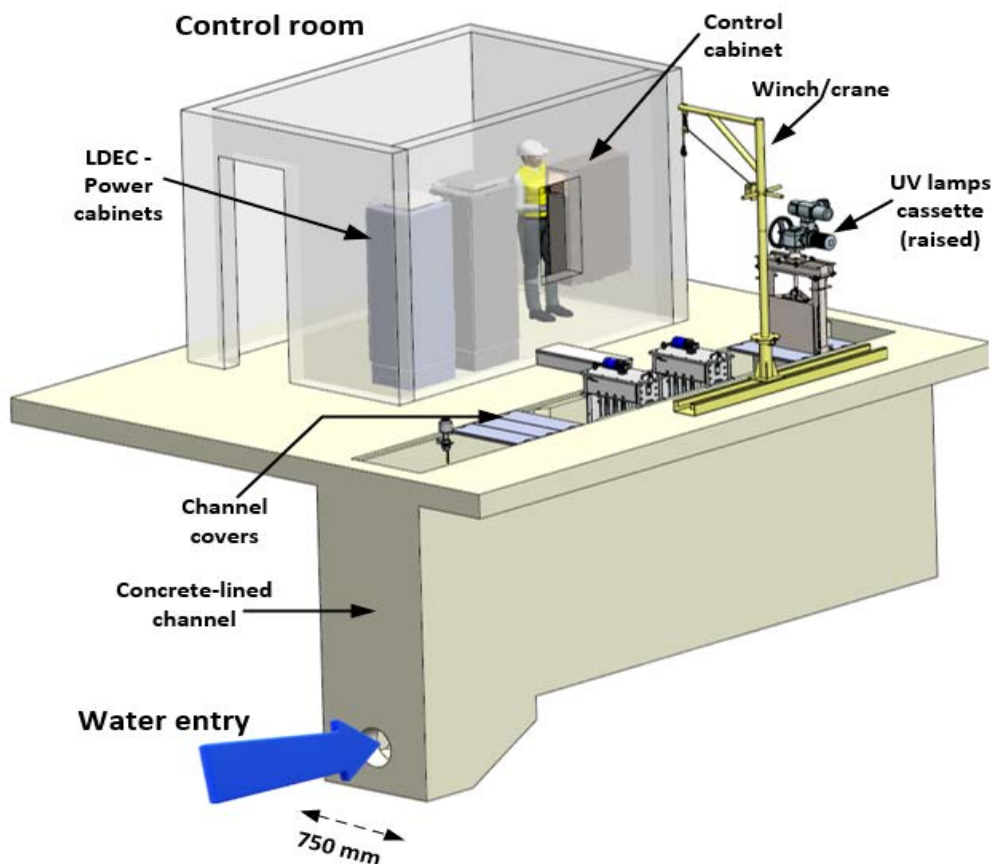
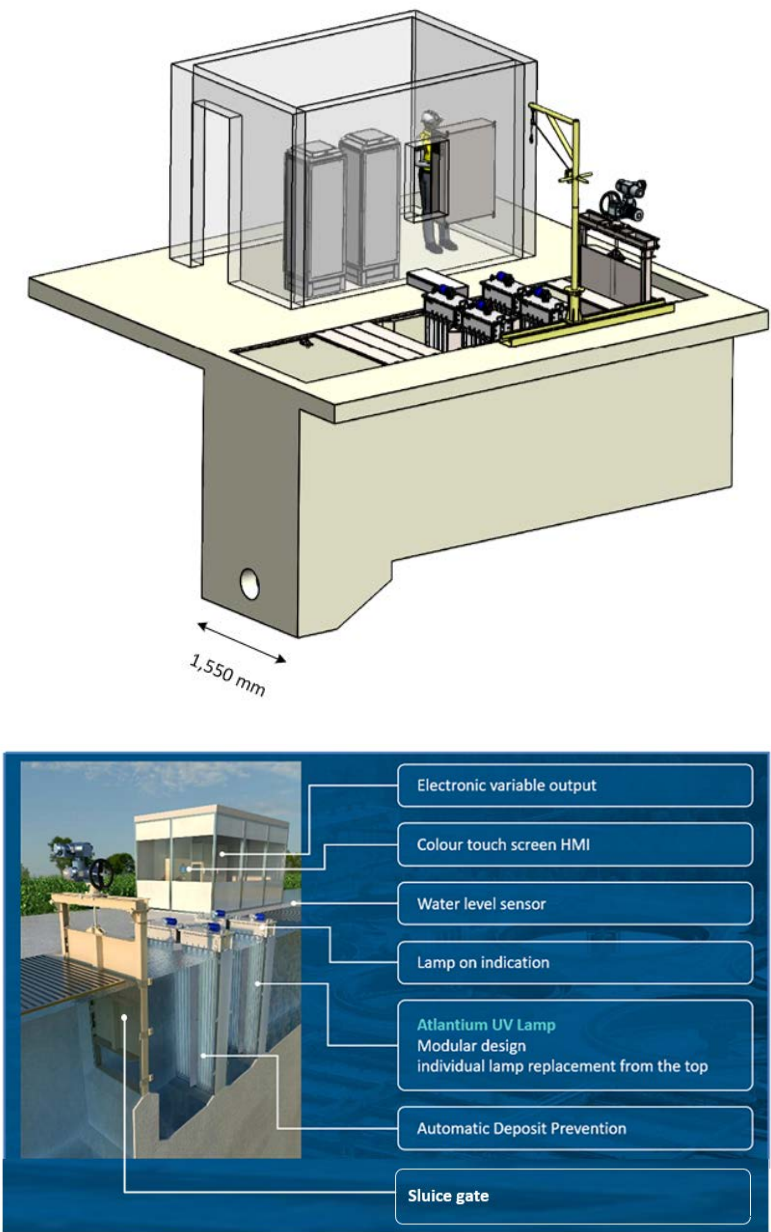
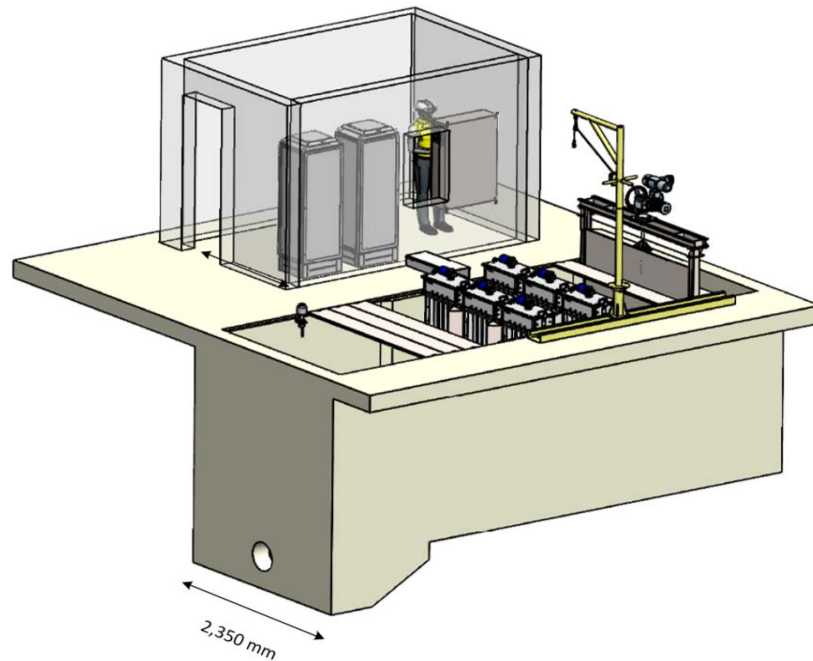

Figure 2-2: Open Channel UVS – generalized set-up with three rows of 750-mm cassettes
Figure 2-3: OCUVS – generalized set-up with 2 rows of double-width cassettes. Below, overall system view
Figure 2-4: OCUVS – generalized set-up with 2 rows of triple-width cassettes
- Each **Open Channel UV System** unit consists of an array of 11 vertical low-pressure UV lamps (just 6 lamps may be required, for certain applications) which are enclosed in a steel cassette (3) that is lowered into a 750 mm-wide concrete-lined water channel (Figure 2-2 on page 8).
- A double-width configuration, featuring 2 cassettes aligned side-by-side with a total of 22 lamps, is also available for a 1,550 mm-wide channel and a t 2,350 mm-wide channel with three cassettes aligned side-by-side (Figure 2-3 on page 9).
The lamps are powered from Lamp drivers enclosed in a nearby Lamp Drivers Electrical Cabinet (Figure 2-4 on page 12).
- An optional sluice gate (which is referred to as a “weir” in diagrams and in the software HMI - Figure 2-3 on page 9) may be operated manually or via the OCVUVS control system.
Please note that the system designs shown in Figure 2-2, Figure 2-3 and Figure 2-4, like other figures in this manual, are **generalized** and do not refer to your specific project. For the precise details of your system, consult the accompanying **Interface Control Drawings (ICD)**.
750 mm channel width - (Figure 2-2 on page 8)
A channel of 1,550 mm - (Figure 2-3 on page 9)
A channel of 2,350 mm - (Figure 2-4 on page 10)